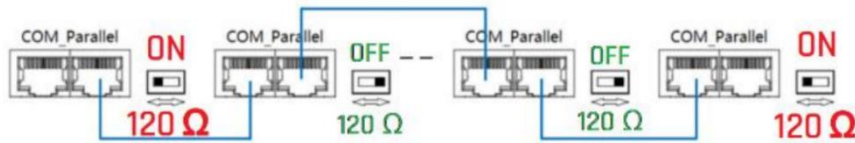

Figure 1
4. Per Fig 1. ensure the communication matching resistor of the first and last battery is set as 120Ω, while the others are set to OFF.